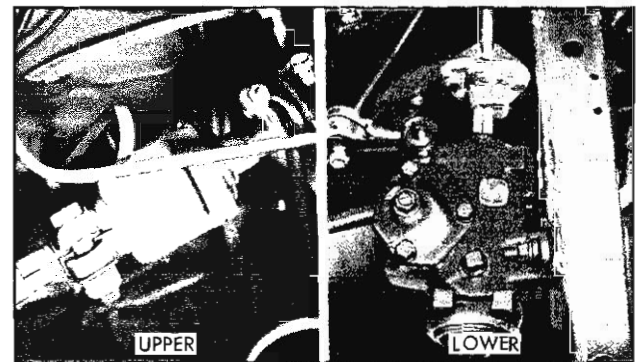

Fig. 6—Steering Shaft Alignment Points
1. Install new intermediate steering shaft and lower coupling assembly by connecting lower coupling to wormshaft with the cast pointer on the coupling aligned with the mark on the wormshaft (fig. 6). Secure coupling by installing special clamp bolt. Tighten clamp bolt to 20-25 ft. lbs. using a 7/16" - 12 point socket.
2. Complete installation by engaging upper end of intermediate shaft to the upper coupling. The split in the upper coupling clamp must be aligned to the mark on the upper end of the intermediate shaft to maintain steering wheel centering with steering gear hi-point. See Figure 6. Secure attachment by tightening the upper coupling clamp bolt, nut and washer to 20-25 ft. lbs. If spring stop clamp was loosened, adjust lower bearing as